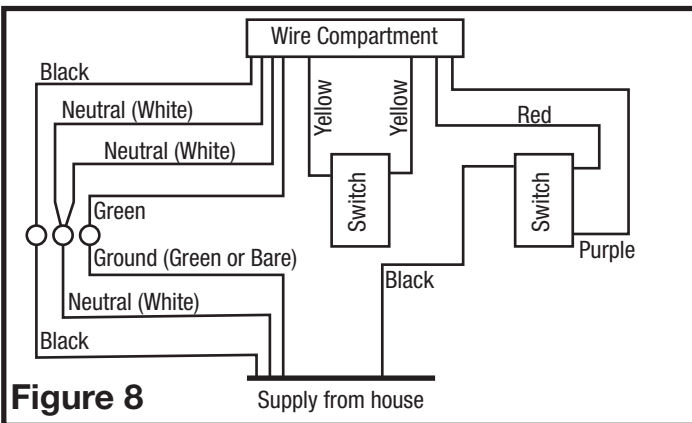

Figure 8
2. **Continuous Ventilation:** For two speed fans wired for continuous ventilation, connect the White wires of the fan to the White (Neutral) wire from the power source. Connect the ground wire from the house to the green wire from the fan housing. Connect the Black wire of the fan to the Black wire (Hot) from the power source. Using a properly grounded standard duplex toggle switch (such as Leviton 5224-2W, not included) connect the Black wire from the supply to one side of the top and bottom switch. Connect the Red wire (light) from the fan housing to the other side of the top switch and connect the Purple wire (night light) from the fan housing to the other side of the bottom switch. Using a second properly grounded standard duplex toggle switch, connect the Hot Yellow wire from the fan to the input of the switch. Connect the second Yellow wire from the fan to the output side of the switch. Closing the switch will change from normal to high speed (Figure 8).